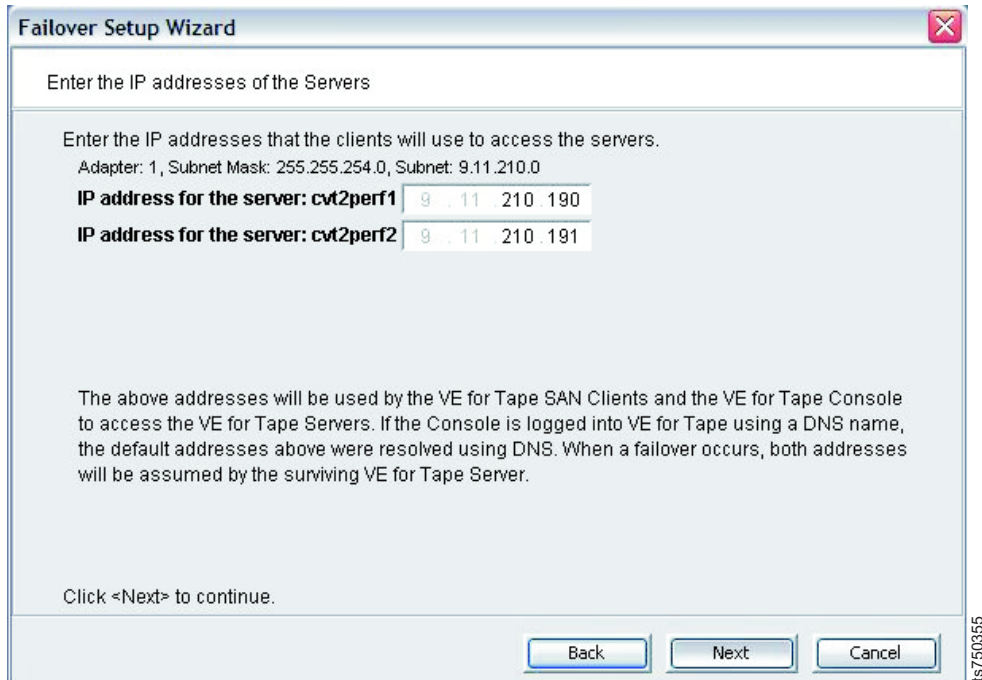

Figure 59. Entering or confirming network interface IP addresses for adapter 1
- ___ 11. In the Enter the IP addresses of the Servers (Adapter 1) window (Figure 59 on page 76), do the following: